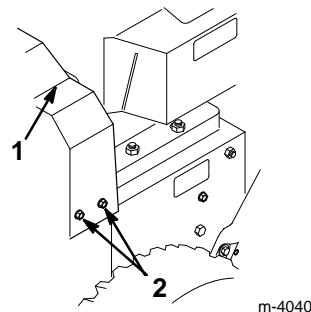

Figure 22
2. Remove the three screws holding the belt cover in place and set the cover aside (Fig. 22).
2. Remove the three screws that secure the belt cover in place and set the cover aside (Fig. 22).